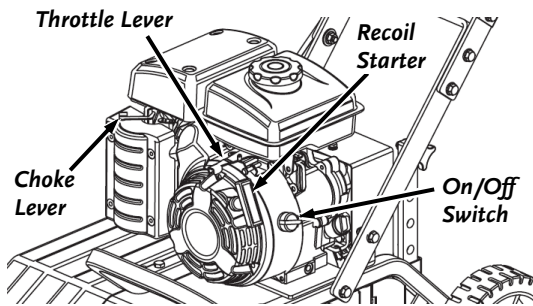

Figure 15
1. Move the engine On/Off switch to the "ON" position (**Figure 15**).
1. Move the throttle lever to the slow (Turtle) position (**Figure 15**).